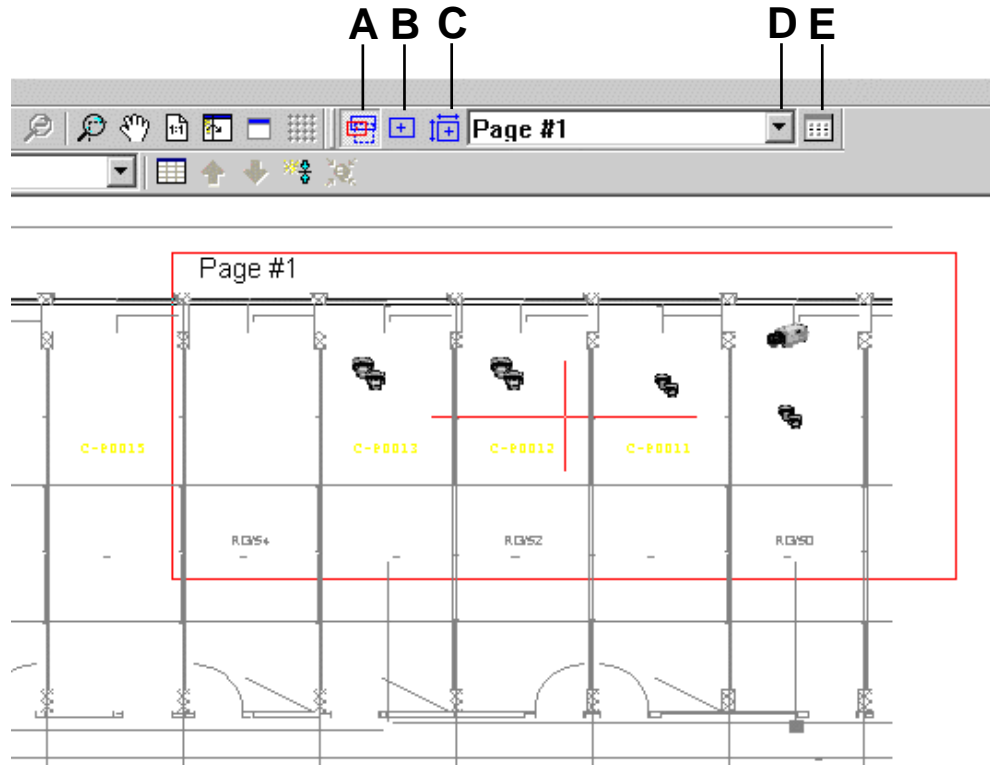

Fig. 21 Manually creating pages
2. Click the Toggle page icon to open page mode. (See “A” in Fig. 21.)
Select the Create icon (see “B” and “C” in Fig. 21.), and then select an area on the page by dragging the red rectangle.
- Click the Open list icon to display the list of configured pages. (See “E” in Fig. 21.)